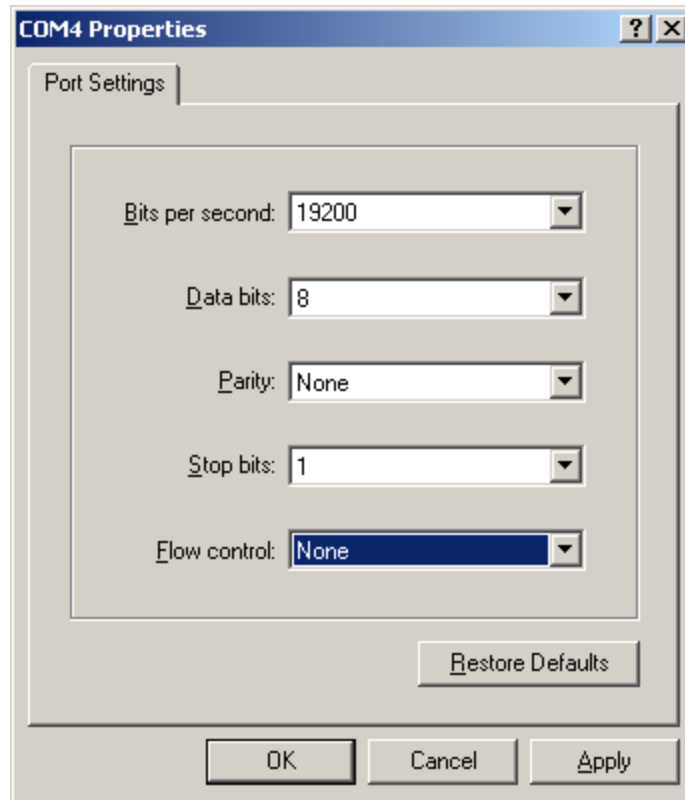

Figure 6-8 • HyperTerminal Port Settings
- The COM4 Properties window appears. Select the following settings (Figure 6-8):